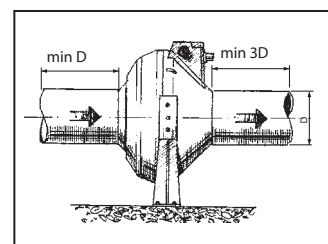

Fig. 7
2. Connect an air duct of the minimum length on both sides of the fan for any mounting position according to fig. 7.